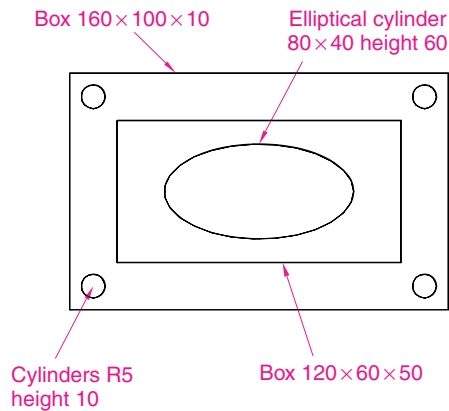

Fig. 13.30 Example – **Chamfer and Fillet** – the model before using the tools
- Using the **Box** and **Cylinder** tools, construct the 3D model in Fig. 13.30.